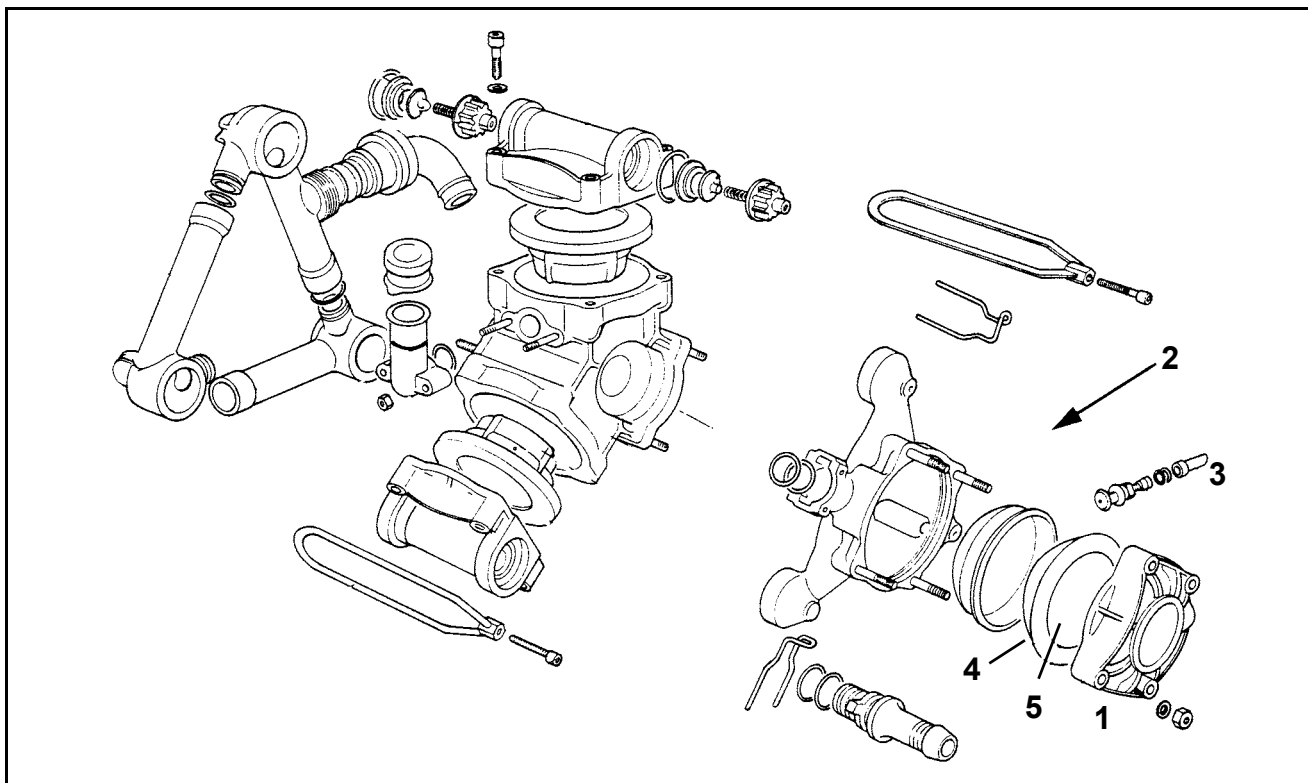

Fig. 132
Deflate the air pressure from the pressure reservoir (Fig. 132/1) via the air valve (Fig. 132/3) before removing the lid of the pressure reservoir (Fig. 132/2).
- Slacken the four fixing bolts, remove the pressure reservoir lid (Fig. 132/1) and take out the diaphragm (Fig. 132/4).
**•When fitting the diaphragm ensure that it is located properly in its seat and that the open surface (Fig. 132/5) of the convex diaphragm shows in direction of the pressure reservoir lid (Fig. 132/1).**